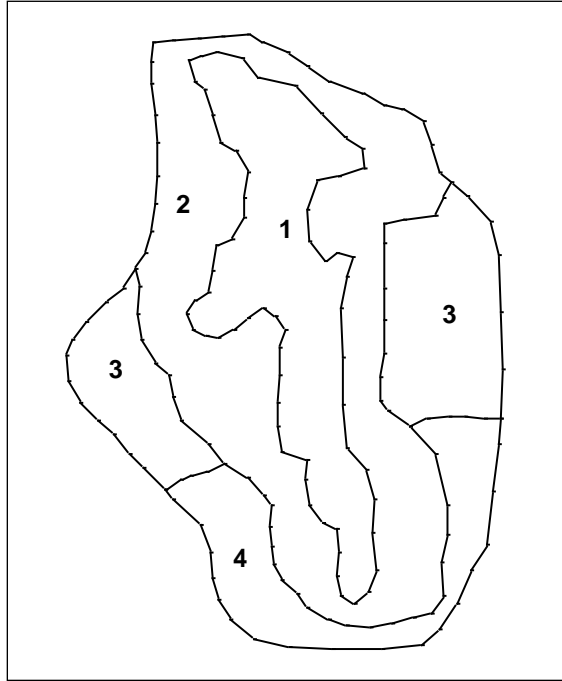

Figure 7 Hydraulic conductivity zones
4. Using the **Select Polygons**  tool and while holding down the *Shift* key, select the polygons labeled 1 and 2 in Figure 7.